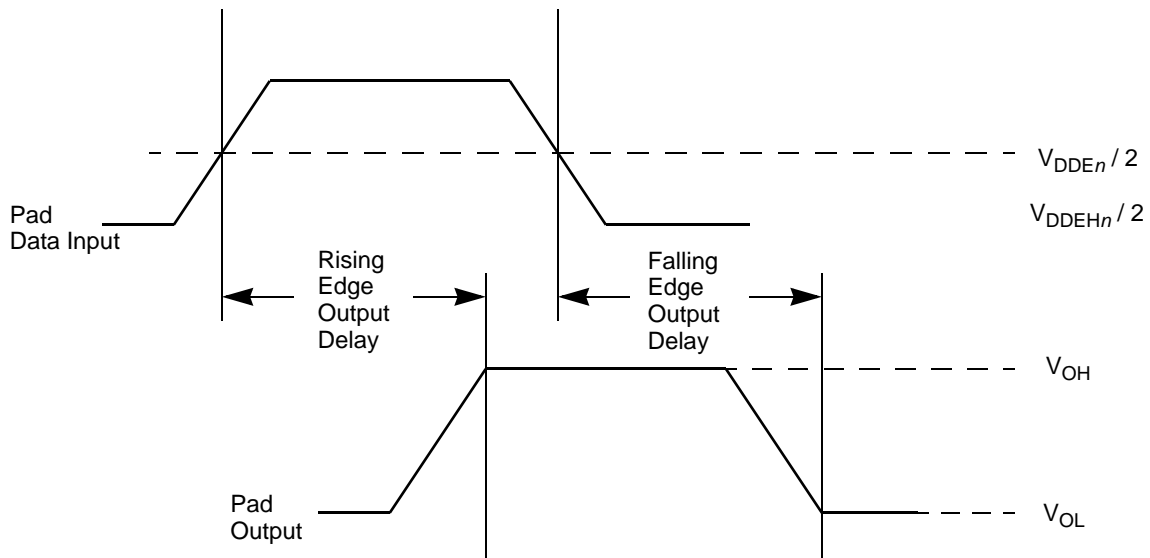

Figure 7. Pad Output Delay
⁵ Out delay is shown in Figure 7. Add a maximum of one system clock to the output delay for delay with respect to system clock.
⁶ Out delay is shown in Figure 7. Add a maximum of one system clock to the output delay for delay with respect to system clock.
- ⁵ Out delay is shown in Figure 7. Add a maximum of one system clock to the output delay for delay with respect to system clock.